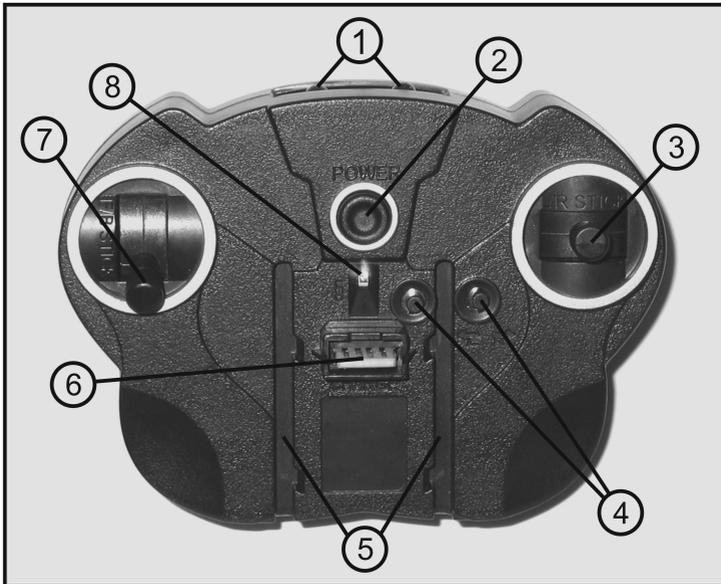

Figure 1
Briefly push the on/off button with your finger (also see figure 1, item 2).
Hold the IR transmitter in both hands and operate the two control levers (see figure 1, item 3 and 7) with your thumbs.
It is therefore important that your IR transmitter diodes (see figure 1, item 1) are always "targeted" at the model to achieve best signal transfer.
The landing skids of the helicopter then must rest in the cut-outs of the transmitter (also see figure 1, item 5).
Then switch on the transmitter and move the control lever for the pitch function (also see figure 1, item 7) all the way forward and back again.